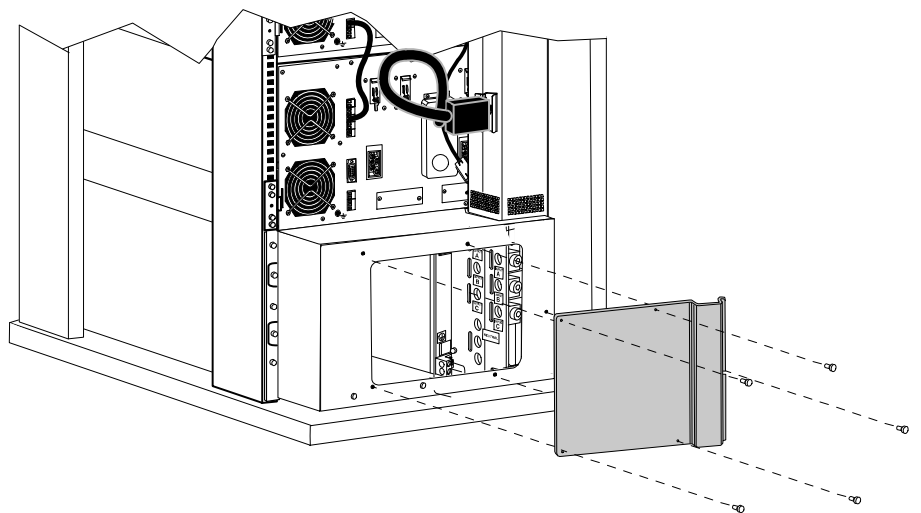

Figure 11. Removing the Wireway Access Cover (Bottom Entry Rack Shown)
2. Remove the five screws on the wireway access cover and retain. Remove the cover and retain. See Figure 11.